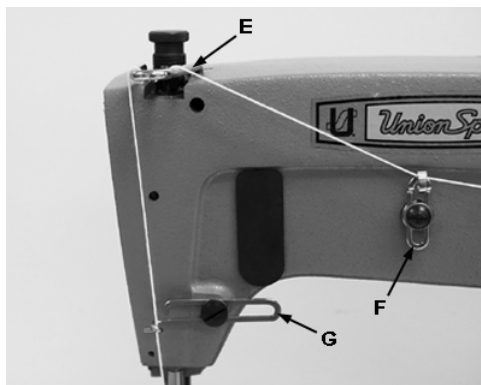

Fig 16A
For 56100Z30B & Z31B Set the needle thread take-up wire (E, Fig 16A) to the lowest position. Set needle thread frame eyelet, (F) so that the screw is centered in the eyelet slot. Set the needle thread frame eyelet, lower, (G) so that the screw is just left of the center of the eyelet slot.